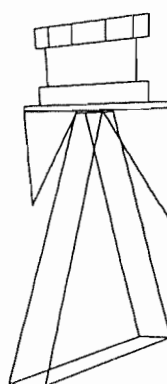

Figure 2.11.2: Spray Pattern
2.11.3 With the orange spray tip hand tight, turn the tip 90 degrees from the final desired position, perpendicular to the line of travel of the spray head. See Figure 2.11.2 for the orientation of the spray pattern.